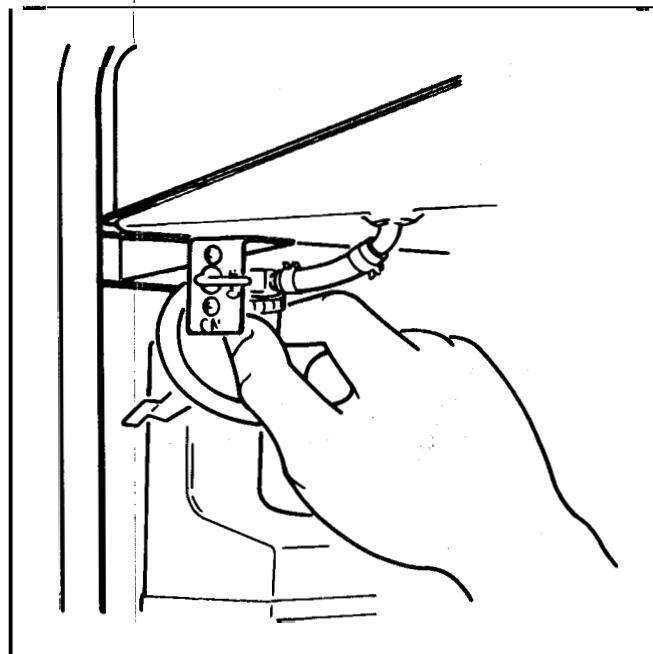

Figure 26
2. Remove the sediment bowl by unscrewing the collar around the **bowl**. See Figure 26.